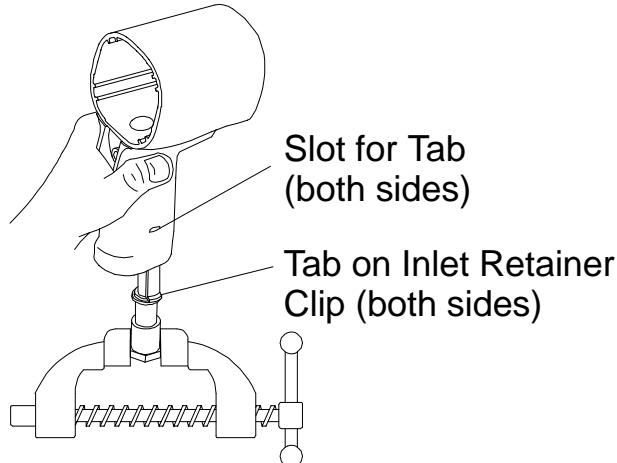

Figure 7
Inlet Retainer Clip (25) and pull upward on the Housing (20). This will allow the Inlet Bushing to come free from the Handle of the Housing. See Figure 7.
2. Pull the Trigger (33) from the front of the Housing and remove the Trigger O-ring (34).